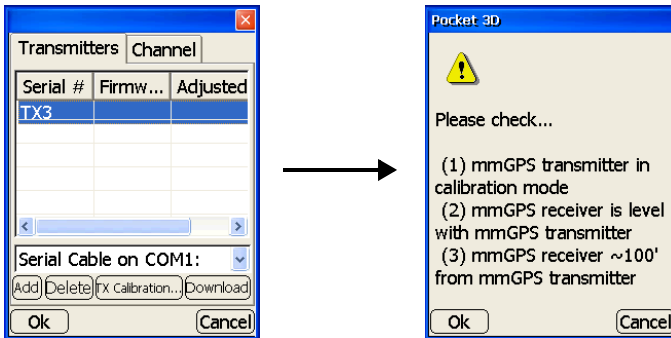

Figure 7-20. Begin Field Calibration Adjustment
5. In Pocket-3D, tap **Setup** ► **mmGPS transmitters** and press **TX Calibration** (Figure 7-20).
If indicated, check the setup listed on-screen (Figure 7-20).